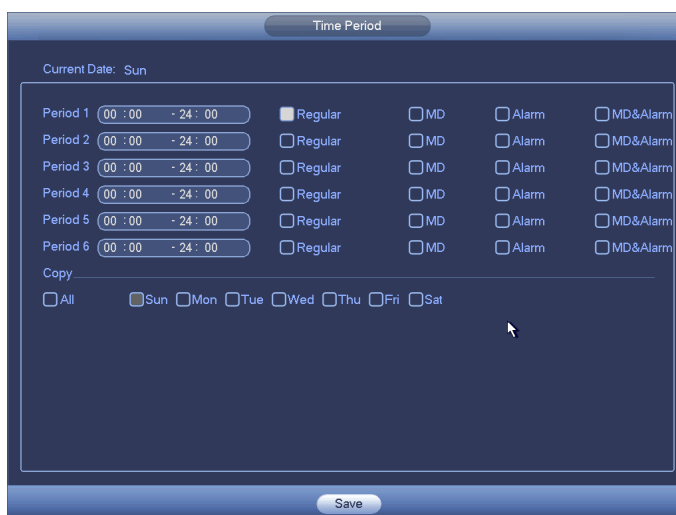

Figure 4-49
● Period setup: Click button  after one date or a holiday, you can see an interface shown as in Figure 4-49. There are four record types: regular, motion detection (MD), Alarm, MD & alarm.